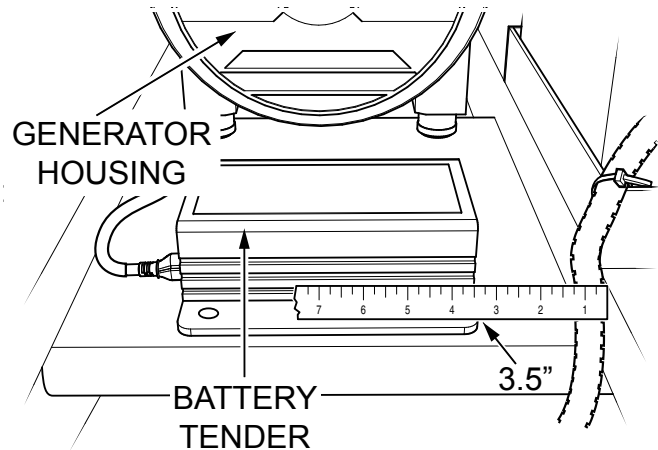

Figure 4. Positioning Battery Tender Charger
1. Using a straight-edge ruler or tape measure, position the battery tender (Figure 4) 3-1/2" from each side of the generator support plate, and on the edge furthest from the generator housing.
When mounting battery tender charger to a welder-generator unit, the mounting will differ from Figure 4.